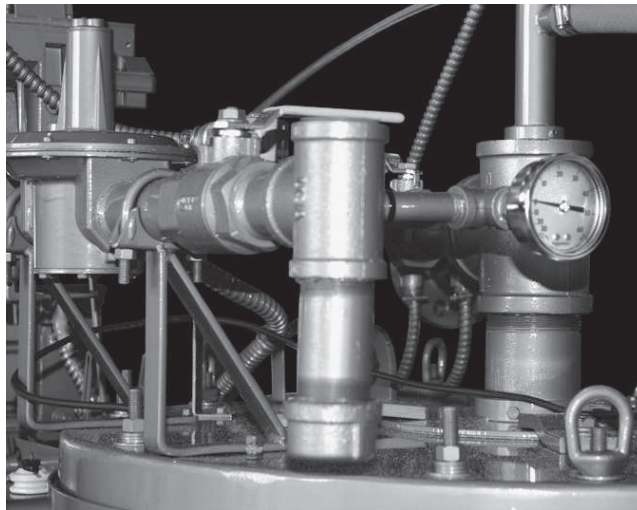

FIGURE 22- GAS TRAIN
1. Check inlet gas pressure at the beginning of the gas train. This should be accomplished by the installation of an appropriately scaled gauge. See Figure 22.